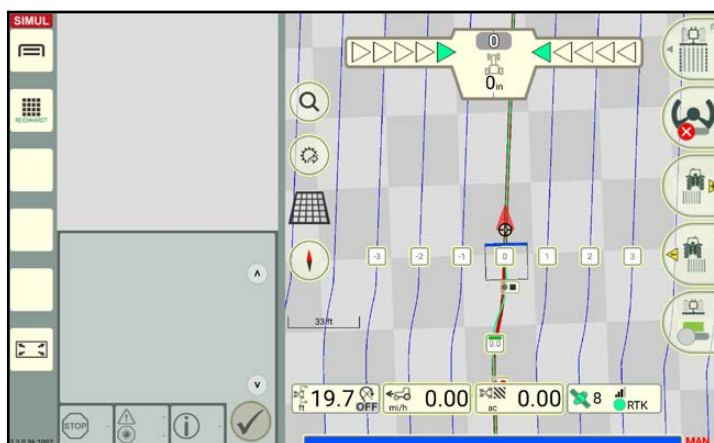

Fig. 86: SMART GUIDE in field marking mode with a reference track and track pattern
You will automatically return to field marking mode (see Fig. 86).
- A parallel track pattern is created for the last created reference track (see Fig. 86);